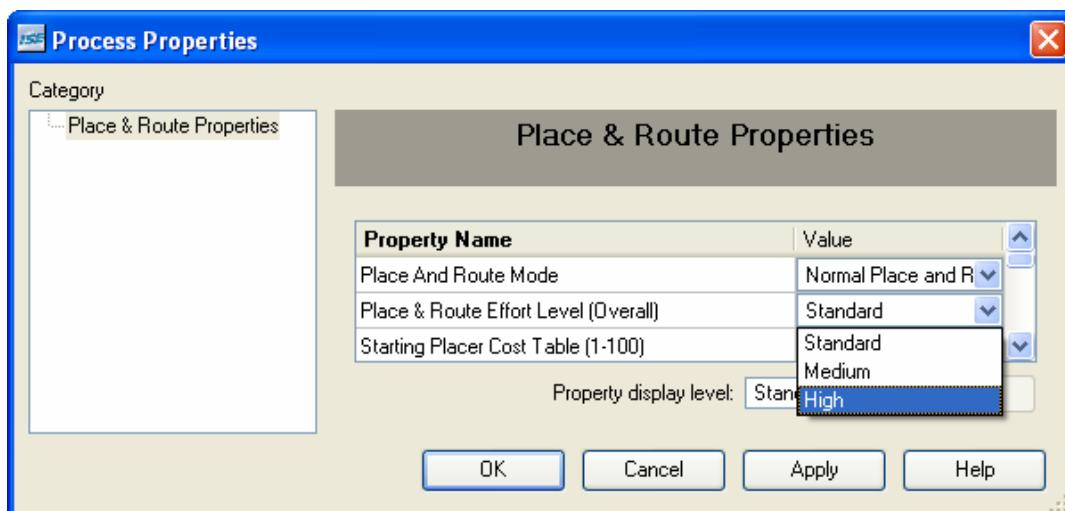

Figure 3d-2. Process Properties
- ① In the Processes for Source window, right-click **Place & Route**, and select **Properties** from the menu
- ② In the Process Properties dialog box, click the **drop-box next to Place & Route Effort Level (Overall)**
- ③ Click the **arrow** and select **High** (Figure 3d-2)